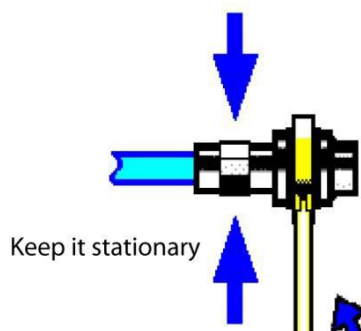

Fig. 3.6 Diagram of wrench operation
Step 3: as shown in Fig. 3.6, complete the final connection by tightening with the torque wrench. Note that the torque wrench must not be beyond the initial break point. Use the auxiliary wrench to prevent the connectors from rotation.